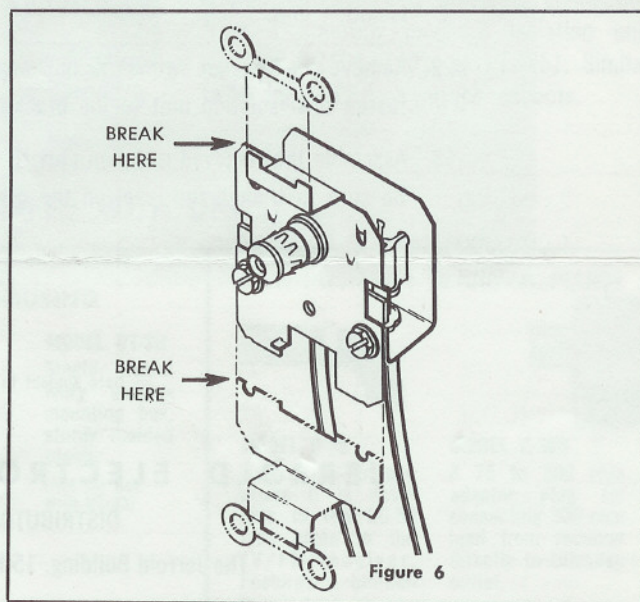

Figure 6
1. Break off metal work on either unit at points indicated in Fig. 6.